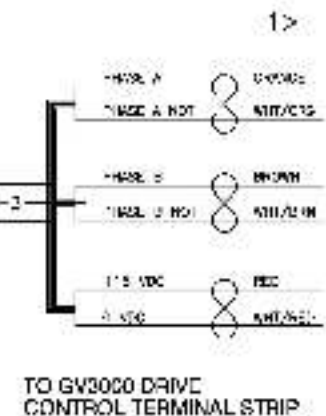
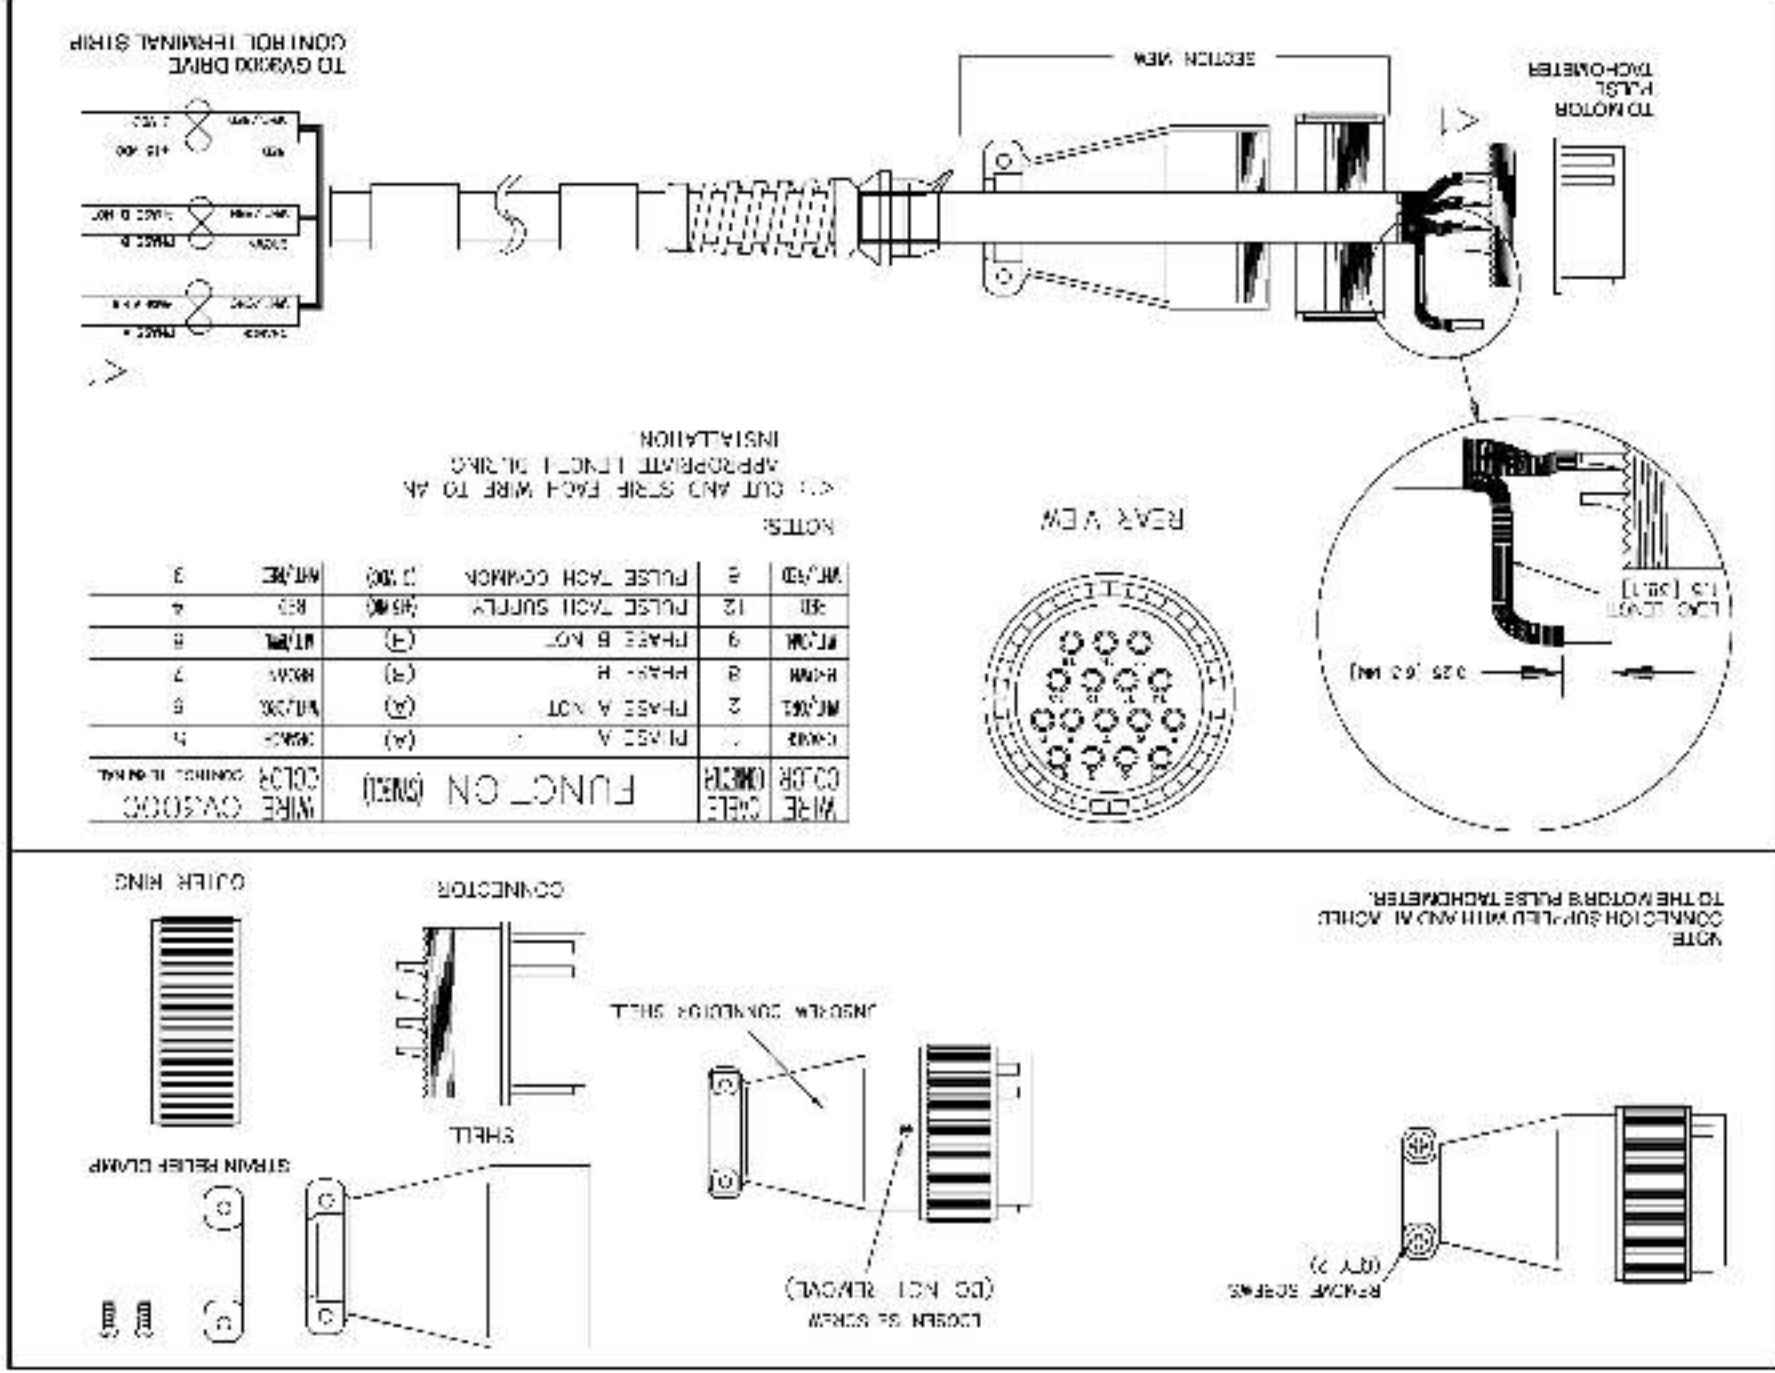

Figure 2 - Dynapar Cable Assembly
Figure 3 - Tamagawa Cable Assembly
For Dynapar pulse tachometers, refer to figure 2. For Tamagawa pulse tachometers, refer to figure 3.
- Step 4. Route the cable through the supplied cable strain relief, the connector's shell, and the outer ring as shown in figure 2 (Dynapar) or figure 3 (Tamagawa).